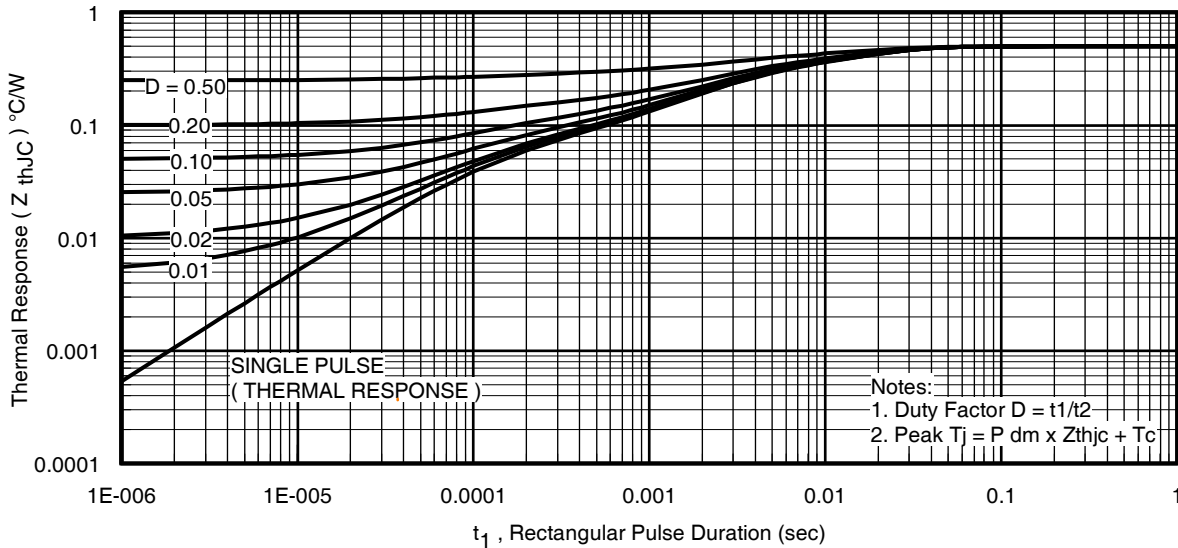

Fig 13. Maximum Effective Transient Thermal Impedance Junction-to-Case
7. ΔT = Allowable rise in junction temperature, not to exceed T_{jmax} (assumed as 25°C in Figure 13, 15).
$Z_{thJC}(D, t_{av})$ = Transient thermal resistance, see Figures 13)